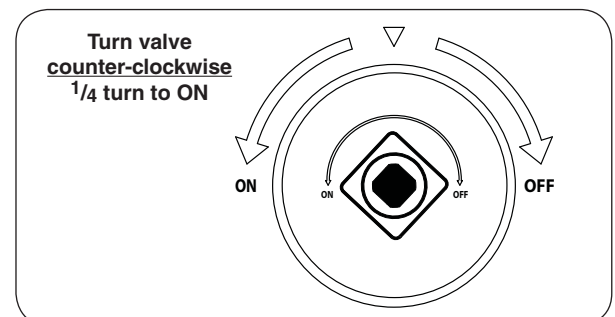

Fig. 39-2 ON/OFF key valve detail
3. Turn the ON/OFF key valve counter-clockwise a $\frac{1}{4}$ turn to the **ON** position (Fig. 39-2).